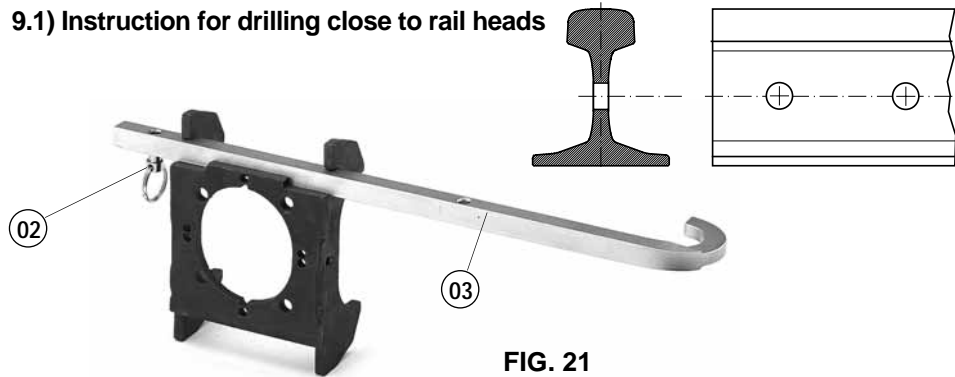

FIG. 21
**9.1.2)** Insert the **SPA...** positioning plate (03) relating to the rail to be drilled in the appropriate housing (see Fig. 21).